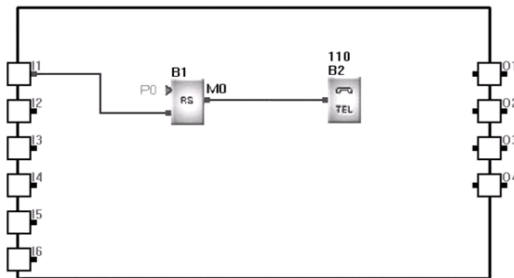

Fig. 5.10-1
4. Your program is shown in Fig. 5.10-1.